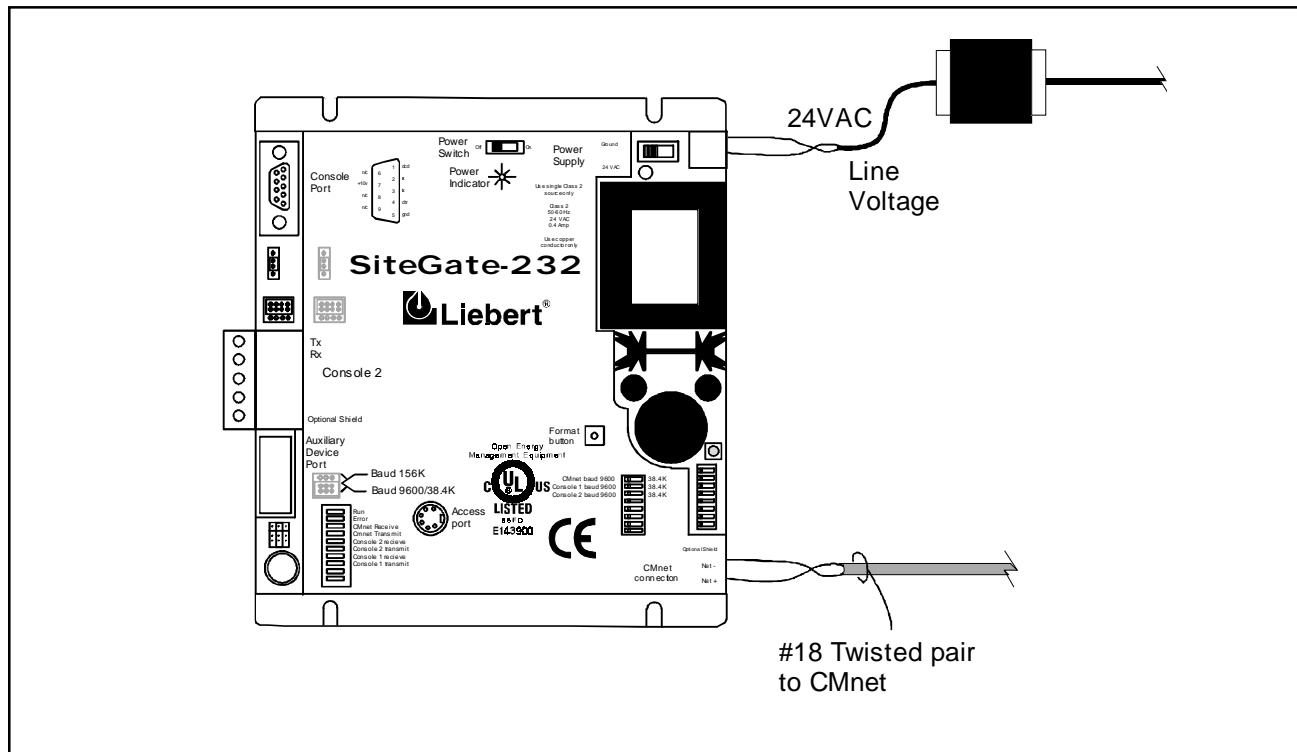

Figure 8: Power and communications wiring
3. Terminate the network (CMnet) communication wires (#18 twisted pair) to the module's screw terminals indicated in Figure 8.